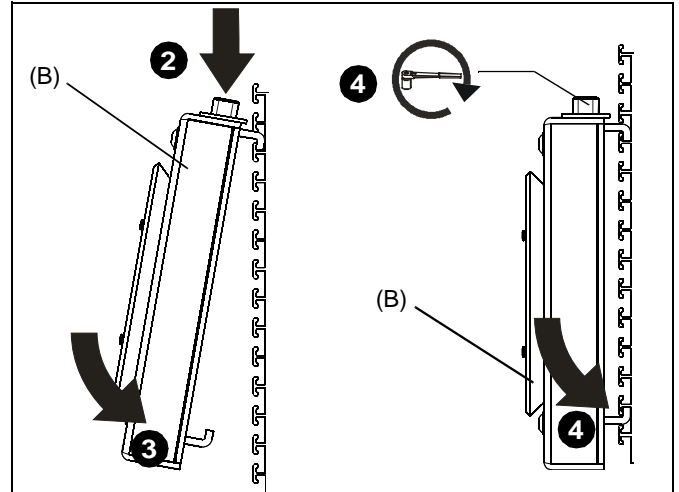

Figure 2
2. Locate desired installation location and slide upper mounting plate into slat wall making sure bracket is seated in channel bottom. (See Figure 2)
4. Using 1/2" socket, tighten tension hex head bolt until lower mounting plate slides into channel in wall and continue tightening until resistance is felt. (See Figure 2)